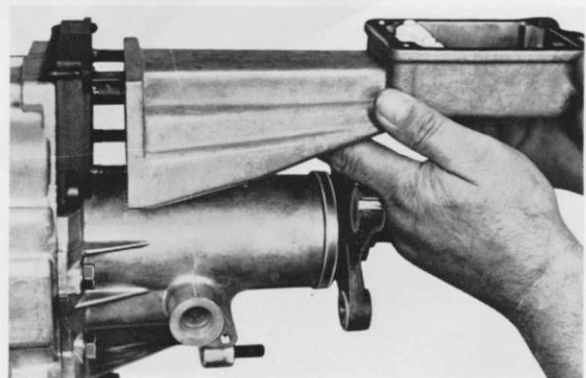

Fig. 65
- 1.2 Place the pivot piece (624) on the 2 locating bolts in the gear change extension (619). Push shift arm over the shift rods (Fig. 65). Tighten nuts (648) with thrust washer (647).